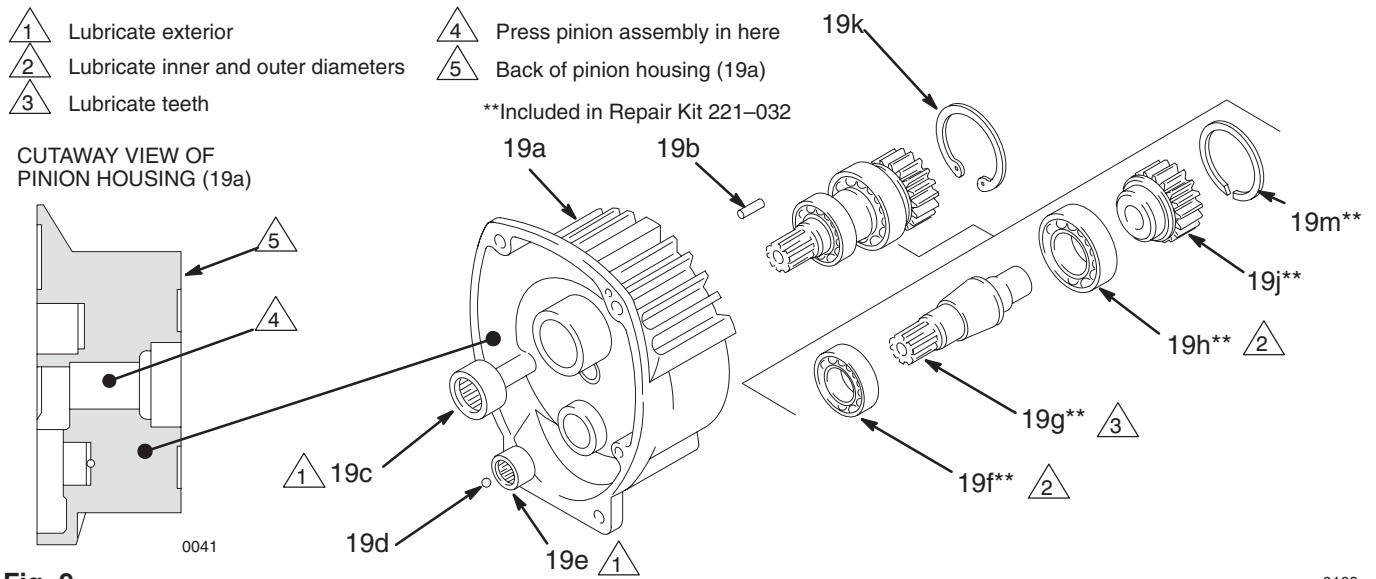

Fig. 9
2. Remove the two bottom screws (10) and lockwashers (11) first, then remove the two side screws (10) and lockwashers (11), and last remove the top screw (10) and lockwasher (11).
3. Pull the pinion housing (19) away from the clutch housing. The armature (4a) will come with it.
4. Pull the armature (4a) off the hub (19j) of the pinion housing. Also see Fig. 9.
NOTE: Refer to Fig. 9 except where noted.
5. Apply lubricant to the parts as shown in Fig. 9.